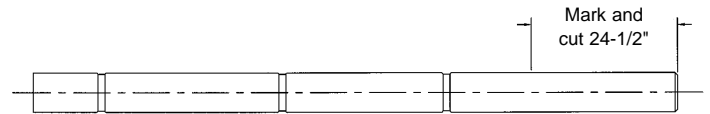

Figure 13
b. With inner conductor tube removed, measure and mark 24-1/2" from brass plug, Figure 13.